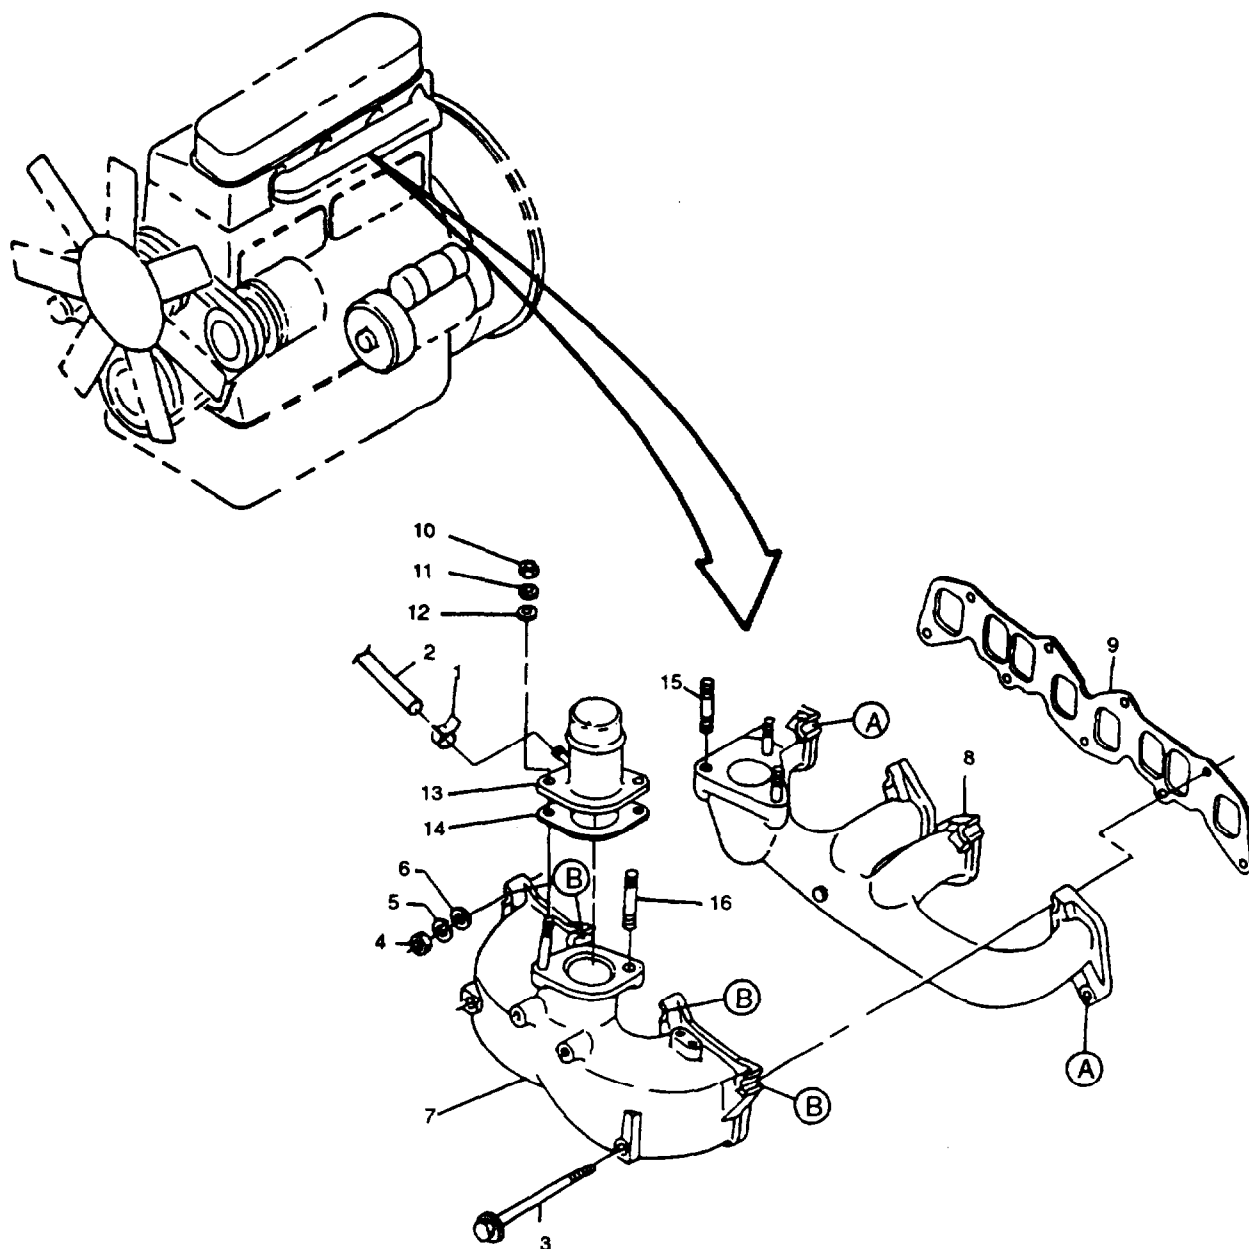

FIGURE 3-45. Intake and Exhaust Manifolds
- b. Remove two bolts (3, FIGURE 3-45) seven nuts (4) lockwashers (5) and washers (6) securing intake manifold (7) and exhaust manifold (8).
- d. Remove clamp (1) and hose (2) to intake manifold.
- e. Remove intake manifold (7) exhaust manifold (8) and gasket (9). Discard lockwashers (5) and gasket (14).
- f. Remove two nuts (10), lockwashers (11), and washers (12) securing inlet pipe (13) to intake manifold (5). Remove intake pipe and gasket (14). Discard lockwashers (11) and gasket (14).